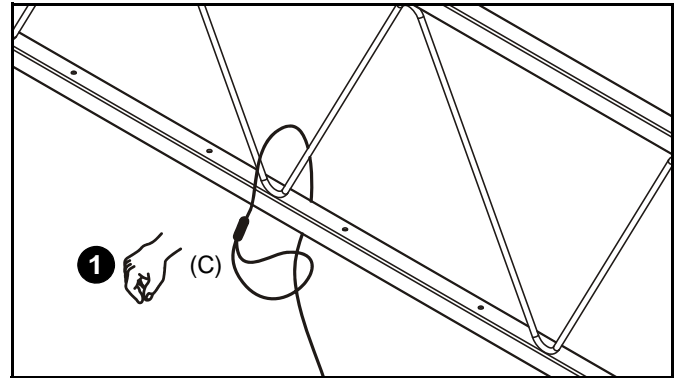

Figure 7
1. Route end of cable (C) over truss at marked cable anchor support location and then through cable loop (See Figure 7). Repeat for remaining support locations.